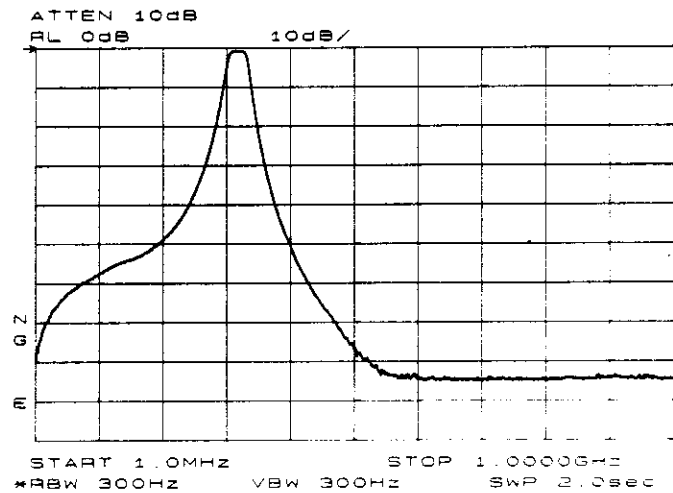

Figure 3-24. Normalized Trace
6. Normalization eliminates the frequency response error in the test-setup. When normalization is on, trace math is being performed on the active trace ($A - B + NRP \rightarrow A$), where A is the active trace, B is the stored thru calibration trace, and NRP is the normalized reference position. Note that the units of the reference level, dB, reflect this relative measurement. See Figure 3-24.